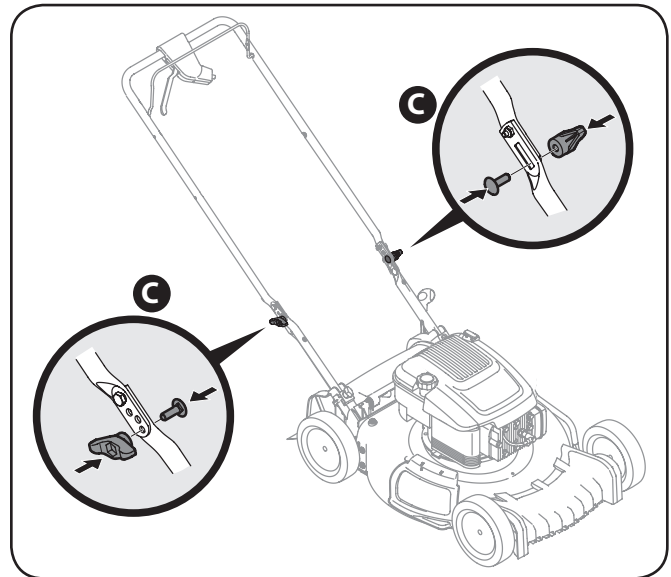

**Figure 3-4**
- a. Pull upward on the handle approximately 8 inches until holes in lower handle (shown in Figure 3-3 deck cutaway) line up with holes in handle bracket. See Figure 3-4.
- b. Insert the T-bolts removed earlier through the handle brackets and lower handle and tighten securely to secure the handle in place. See Figure 3-4.